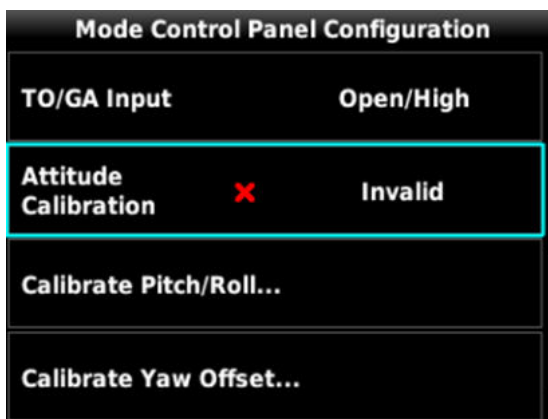

Figure 22-6 – Attitude Calibration Invalid
- d. Verify that there is not a red “X” or “Invalid” shown on the line. Refer to Figure 22-6 below for a representative example.